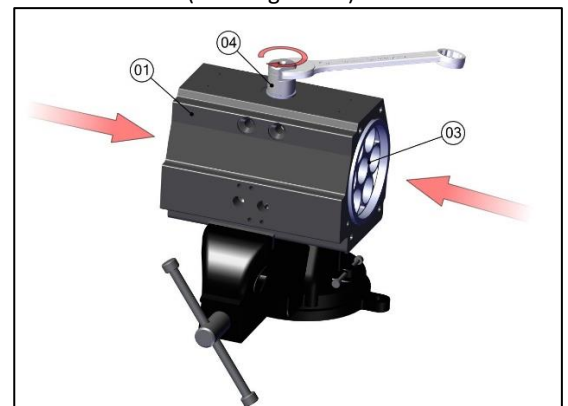

Fig No. 28
- Fit piston pad (07), piston guide band (06), and piston O-rings (11) on the pistons (03).
- Apply grease to the internal bore of the body (01) & to the piston rack teeth.
- Press the two pistons simultaneously in the body bore until the pinion racks are engaged and rotate the pinion until the stroke is completed. Take care that the pistons are oriented correctly as per the fail position of the actuator. (refer Fig No.28)